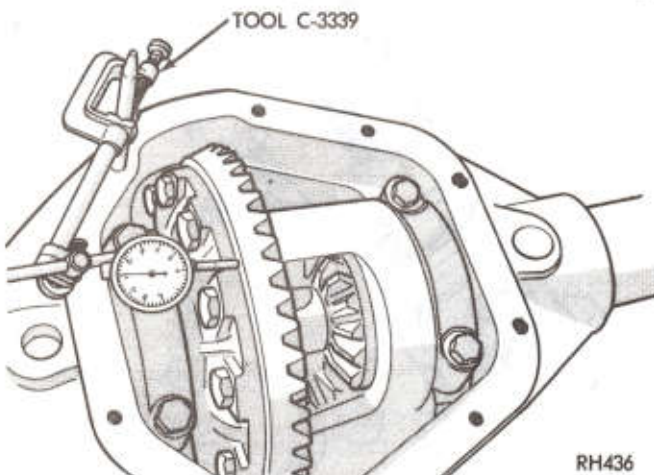

Fig. 19—Measuring Drive Gear Runout
(1) Thoroughly clean the outer area of carrier and tubes with a suitable cleaning solvent and blow dry with compressed air.
(2) Loosen and remove cover screws and remove carrier cover. Drain lubricant into a container.
(3) Using a suitable cleaning solvent wash and clean differential, bearings, gear ring and pinion and internal surfaces and blow dry with compressed air.
(4) In preparing to measure drive gear back face runout (provided no side play was found) mount a dial indicator Tool C-3339 on pilot stud (Fig. 19), and load the indicator stem slightly with plunger at right angles to back face of drive gear.
(5) Measure drive gear back face runout by rotating drive gear several complete revolutions and reading